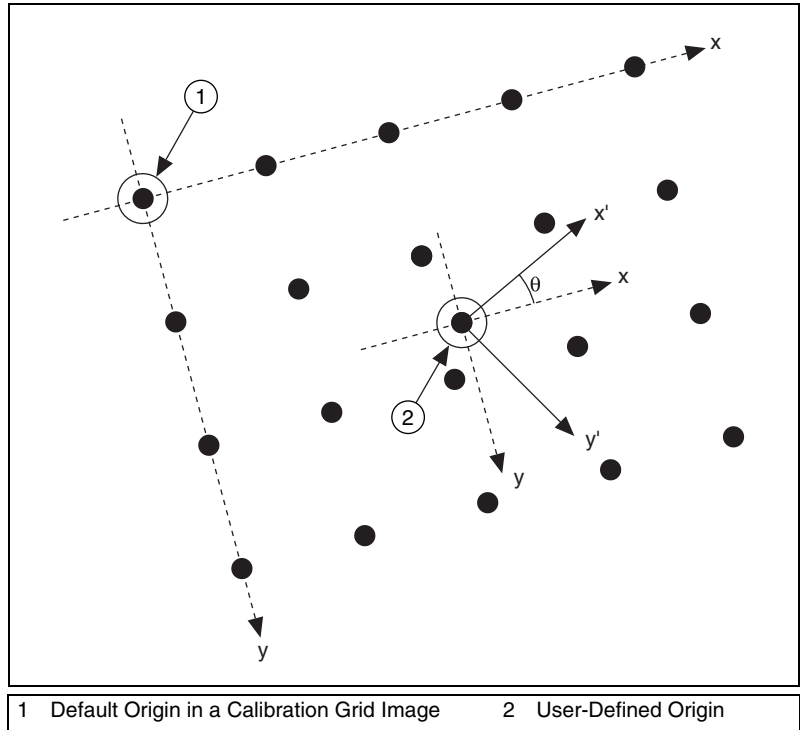

Figure 6-4. Defining a Coordinate System
- Specify the angle as the angle between the x-axis of the new coordinate system (x') and the top row of dots (x), as shown in Figure 6-4. If the imaging system exhibits nonlinear distortion, you cannot visualize the angle as you can in Figure 6-4 because the dots do not appear in straight lines.